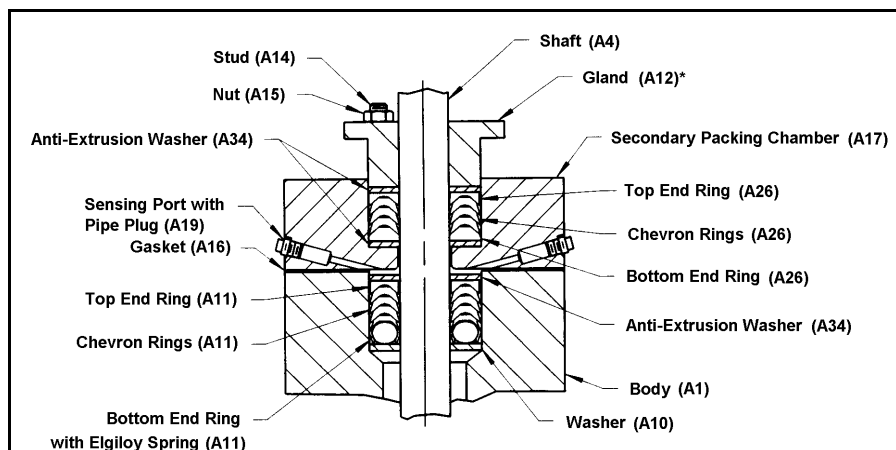

Figure 4—Packing Option TMD
- Place the primary (lower) set of new packing (A11) and anti-extrusion washers (A34) in the body, one ring at a time, as shown in Figure 4—do not lubricate.